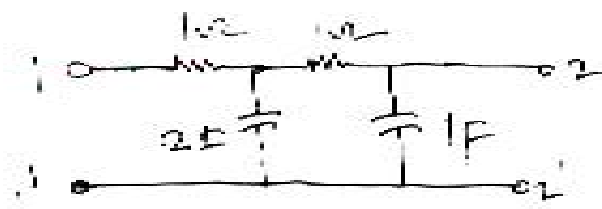

Fig. 5
4. a) For the ladder network shown in figure 5 find $Z_{21}(s)$ as a transfer function. 8